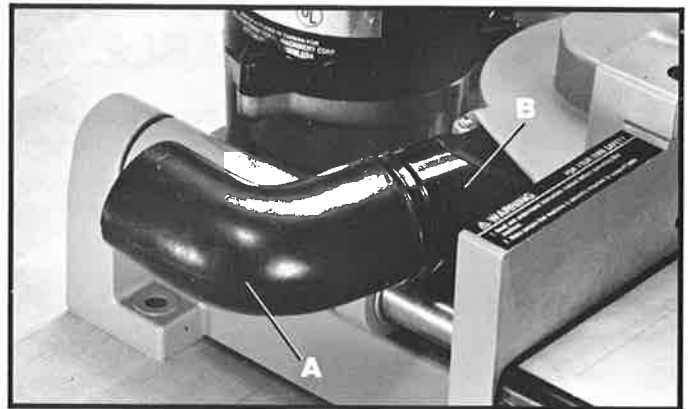

Fig. 17
A dust chute (A) is supplied for use with your plate joiner and is to be assembled to the chip exhaust (B) on the left rear side of the machine, as shown in Fig. 17. The plate joiner can be connected directly to the Delta accessory 49-255 28-gallon, all purpose vacuum cleaner by removing the dust chute (A) Fig. 17, and using the accessory 49-220 (2½" x 1½") adapter and the accessory 49-228 (2½" x 2½") coupling. The hose from the 49-255 vacuum cleaner can then be connected to the coupling.